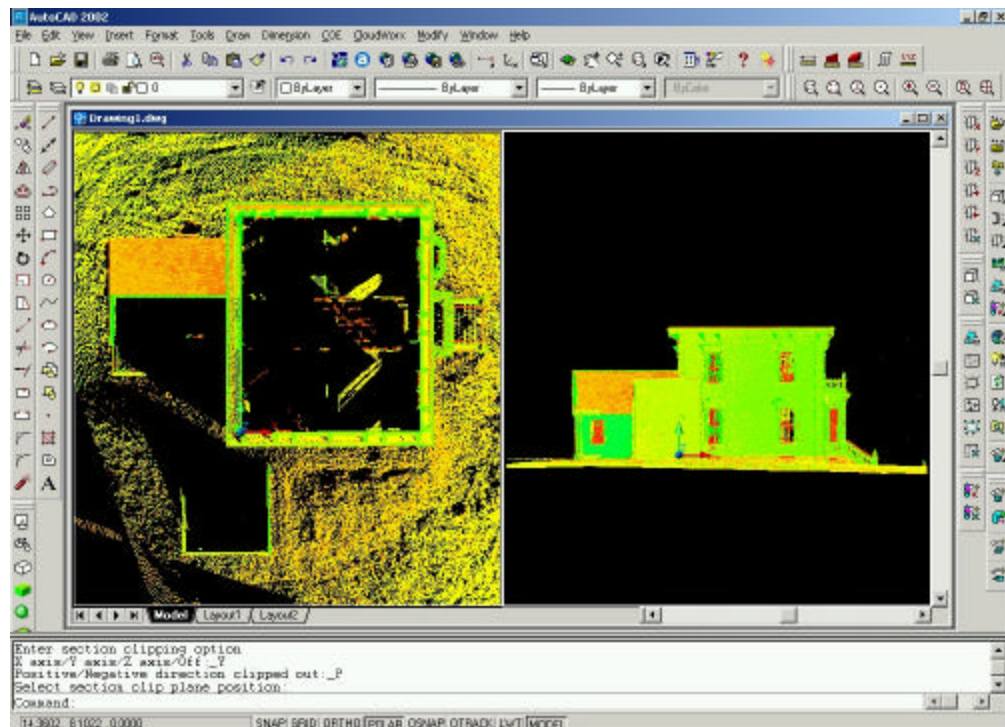

fig 4.1.1
4. Your result should be similar to Fig 4.1.1. In this case defining a section view allows you to look inside the building without the roof data obstructing your view.